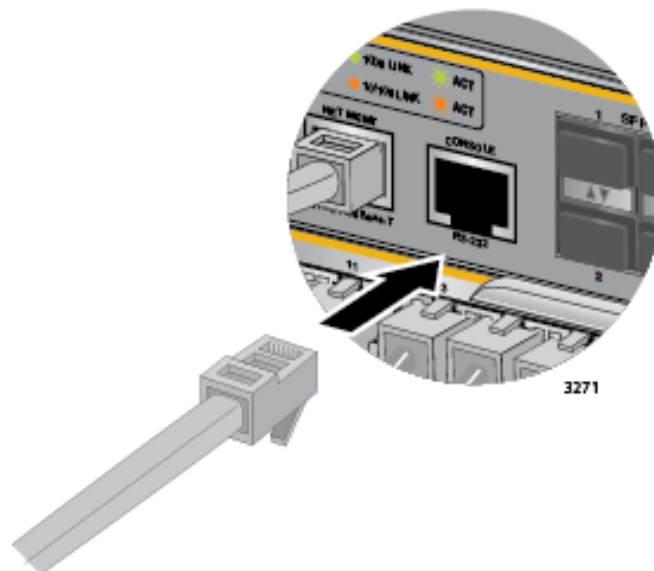

Figure 137. Connecting the Management Cable to the Console RS-232 Port
1. Connect the RJ-45 end of the management card included with the AT-SBx81CFC960 Controller Fabric Card to the Console RS-232 port on the front panel of the AT-SBx81CFC960 Control Card, as shown in Figure 137. If the chassis has two controller cards, you may use the Console RS-232 port on either card to establish a local management session with the chassis.